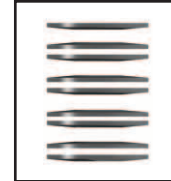

Figure 2
- 7 Be sure to reassemble the internal components and shim stack (see figure 2) in the proper order and direction.